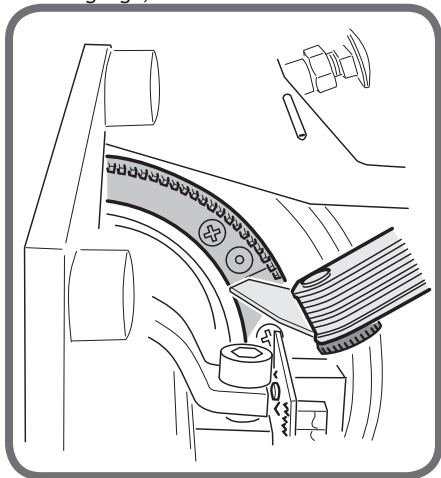

Fig.4
- on the new disk, use nippers to cut the two junction teeth in line with the “0” notch. Insert the disk in the appropriate seat and tighten the 4 screws (previously loosened) but without blocking them. Adjust the disk so that the gap on the “0” notch is 0.9mm/1mm, as shown in figure 4. To check the width of the gap on the “0” notch you can use a normal feeler gauge;